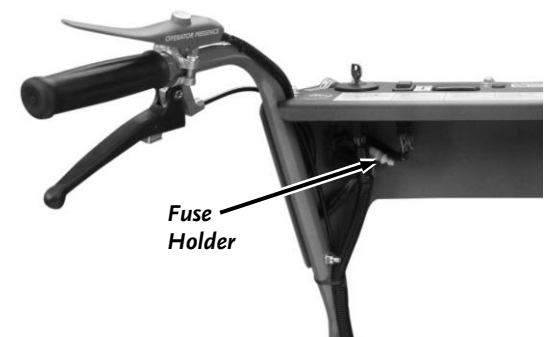

Figure 51
1. Pull the yellow Fuse Holder (under the Control Panel) apart and remove the Fuse from the (**Figure 51**).